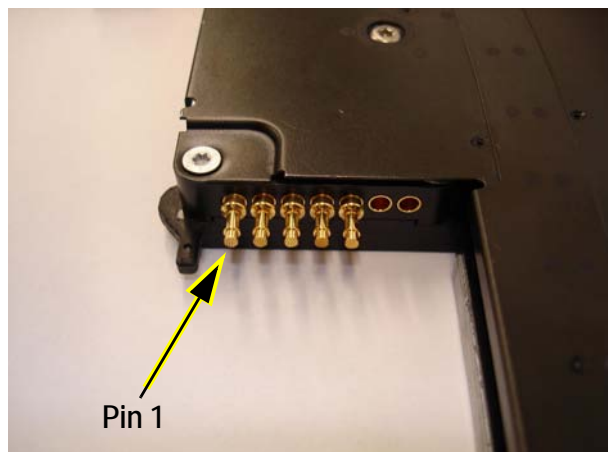

FIGURE 20
REMARK: Pin 1 is defined as the most lower pin (see FIGURE 20).
3. Check whether no contact pin of the feeder is missing (see FIGURE 20).